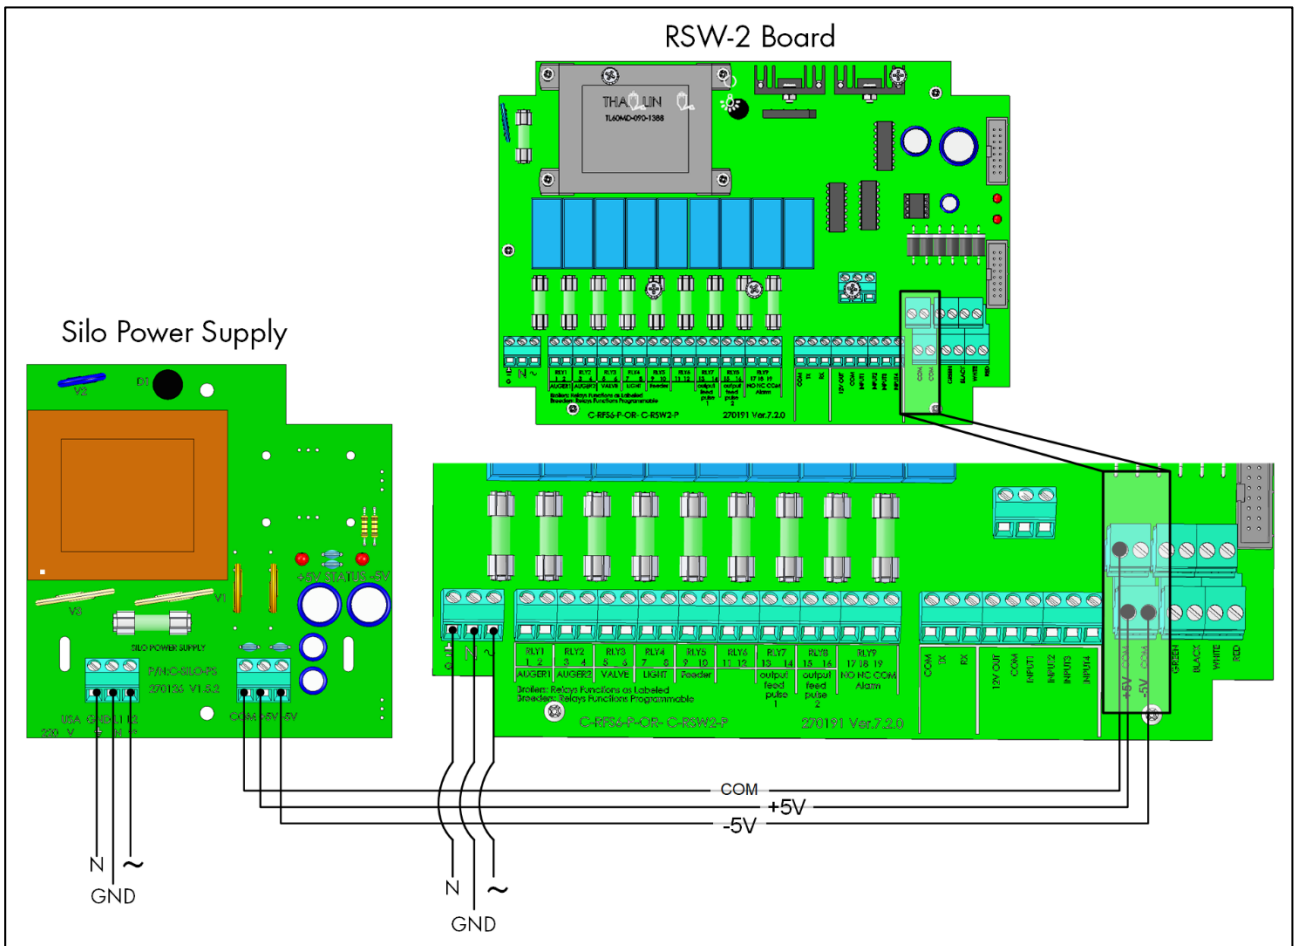

Figure 12: External Power Supply Wiring Diagram
- When seven (7) or eight (8) RSLC units are connected an RSW-2/RJB, an **additional** external power source (SILO-PS) is required (Figure 12).